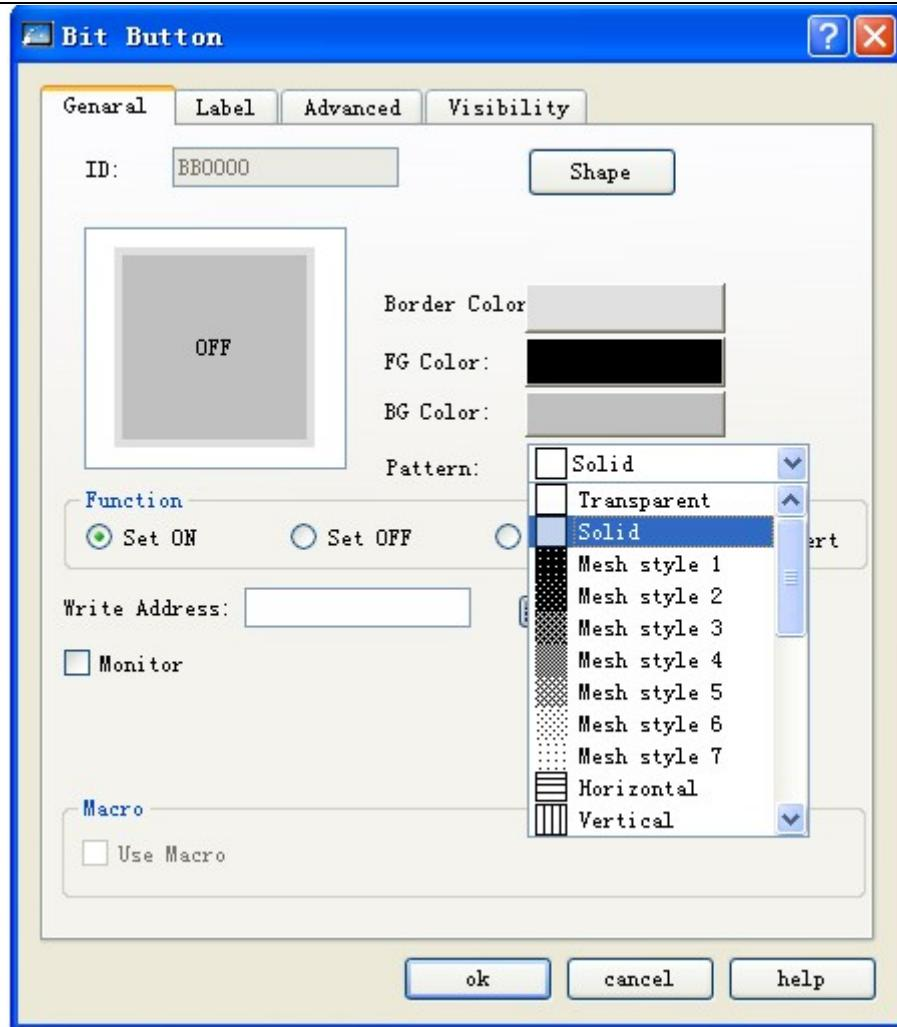

Figure 4-75: Change shape and pattern value
- ◆ Pattern: Click this drop-down box, and then you can select any of the 21 patterns to beautify the control. See Figure 4-75 for an example: